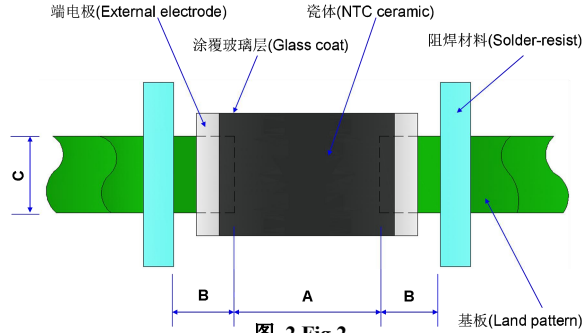

图 2 Fig.2
- PCB 焊盘：见图 2 和表 1
Recommended PCB pattern for reflow soldering: See Fig.2 and Table 1.